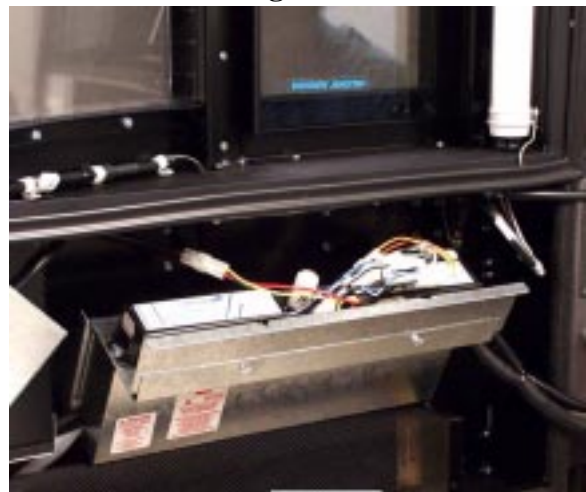

Figure 7
10. Remove affected component (figure 7).